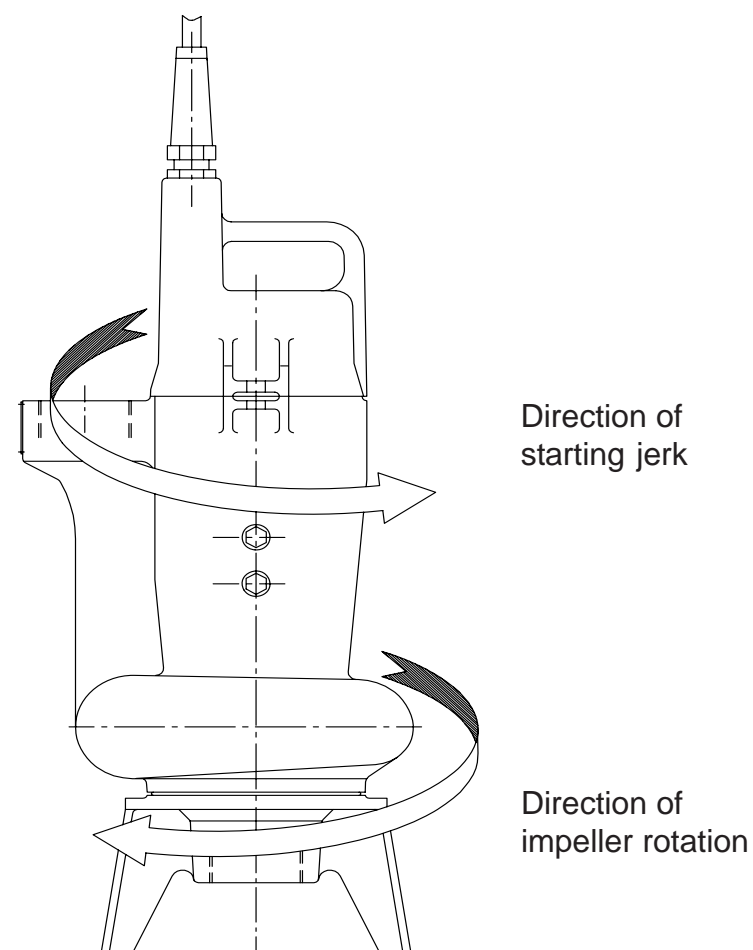

Abb. 3
The starting jerk should be **counter-clockwise when viewed from the top of the motor**, as indicated on Fig. 3.
- The direction of rotation is correct (see 4.7, Fig. 3).